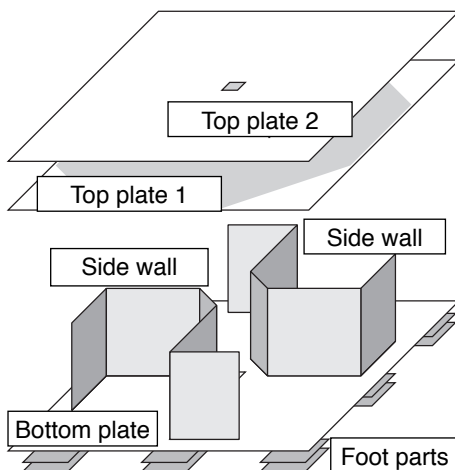

Fig 4: The calibration bench
**Step 36:** Remove the small square from the bottom plate [G1, Bogen 10] and fold the side walls [G2 and G3, Bogen 10] sharply forwards along the first groove line and backwards along the other ones. Put the bottom plate onto your work surface and glue the side walls sideways onto their respective glue markings (see Fig 4). Push the side walls against the bottom plate until the glue has set to make sure they sit gap-free on the bottom plate.